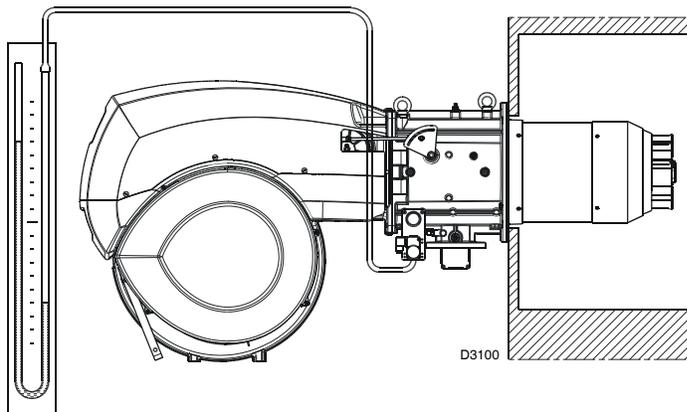

Fig. 36
- Fit a U-type manometer (Fig. 36) to the gas pressure test point on the sleeve. The manometer readings are used to calculate MAX. burner power using the table on pag. 23.
The arrival of gas at the sleeve is indicated by the U-type manometer (Fig. 36).